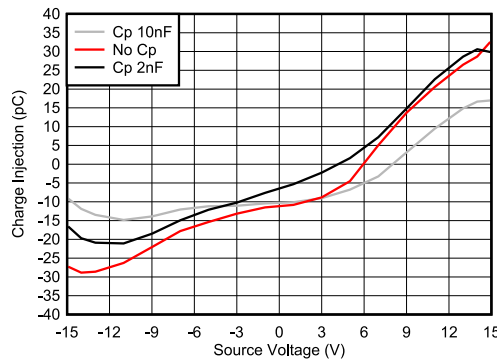

Figure 8-2. Charge Injection Compensation
The TMUX720x contains specialized architecture to reduce charge injection on the Drain (Dx). To further reduce charge injection in a sensitive application, a compensation capacitor ( $C_p$ ) can be added on the Source (S). By design, the excess charge from the switch transition will be pushed into the compensation capacitor on the Source (S) instead of the Drain (D). As a general rule,  $C_p$  should be 20x larger than the equivalent load capacitance on the Drain (D). Figure 8-2 shows charge injection variation with different compensation capacitors on the Source side. This plot was captured on the TMUX7219 as part of the TMUX72xx family with a 100 pF load capacitance.